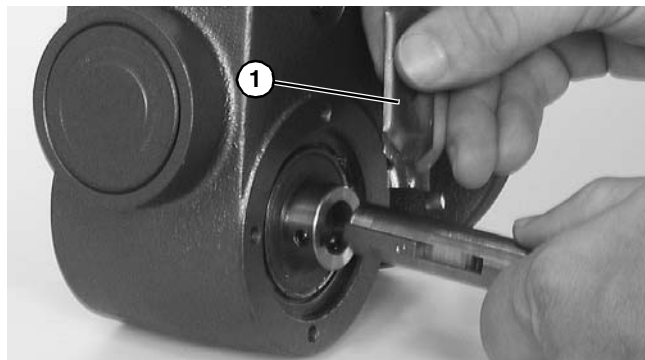

Figure 34
2. Apply anti-seize (**Figure 34, item 1**) to shaft.